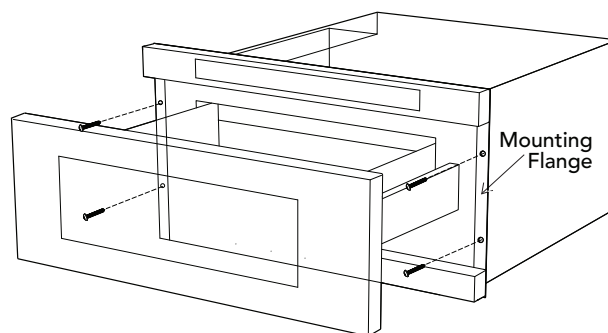

FIGURE 5A
3. Slide the drawer all the way until the mounting flange is flush with the face of the cabinet. See FIGURE 5A.
4. Open the drawer. Using the 4 holes on the drawer as a template, pre drill the cabinet using a $\frac{1}{16}$ " bit. See FIGURE 5A.